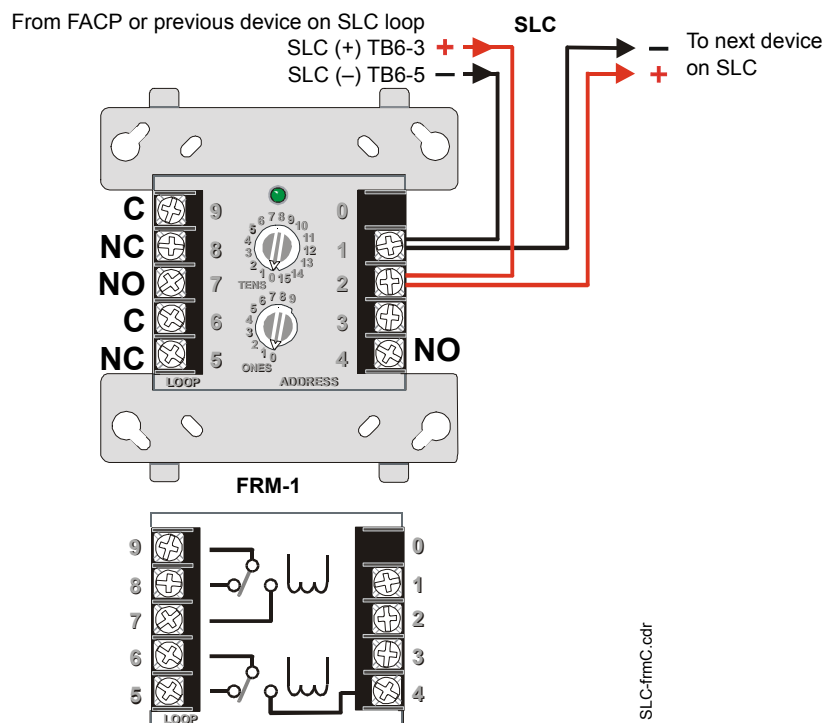

Figure 39 FRM-1 Relay Module Connections
The FRM-1 is an addressable module which includes a Form-C dry contact relay which can be used to activate a variety of output circuits. Figure 39 shows relay module connections.
1. Connect the SLC from the CPU to relay module terminals 1 (-) and 2 (+) as shown in Figure 39.
3. Wire the common and the normally-open or normally-closed contacts to the relay module (Figure 39).